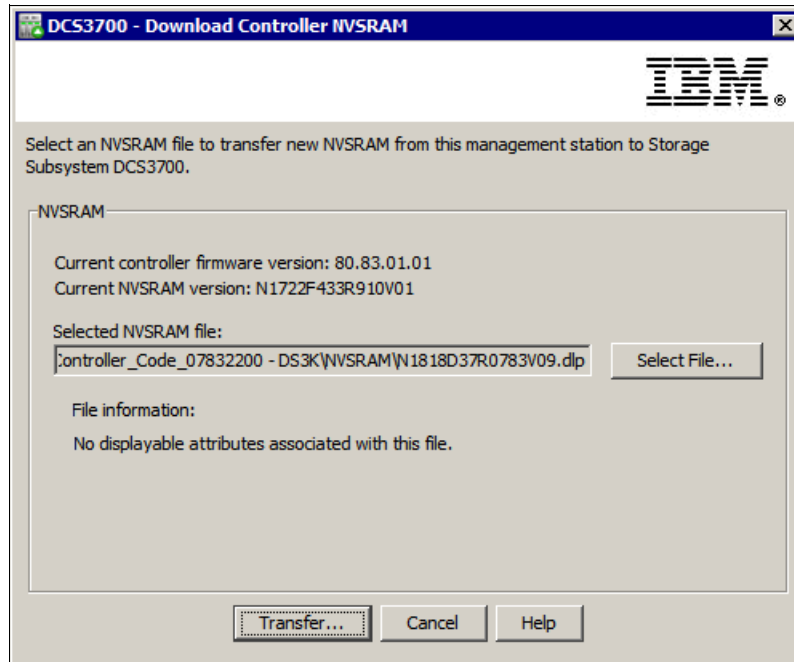

Figure 14-40 Download Controller NVSRAM
1. To download a new NVSRAM file to your storage subsystem, open the associated window (Figure 14-40). Click **Select File** to select the NVSRAM file.
2. Click **Select File** to select the NVSRAM file, as shown in Figure 14-40.